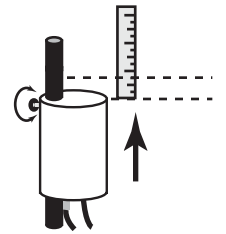

Figure 11
15) Loosen the Thumbscrew on the Canister and raise the Canister (see Figure 11) by the amount measured in Step 14. Tighten the Thumbscrew.